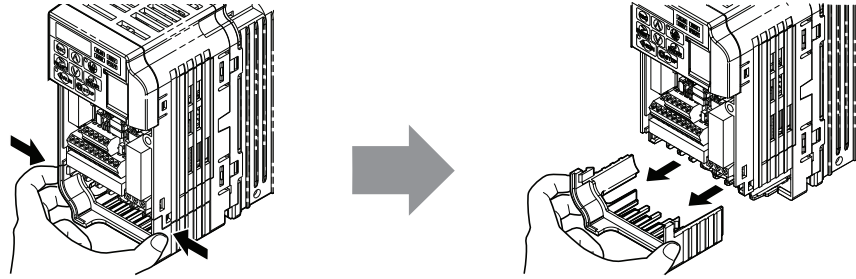
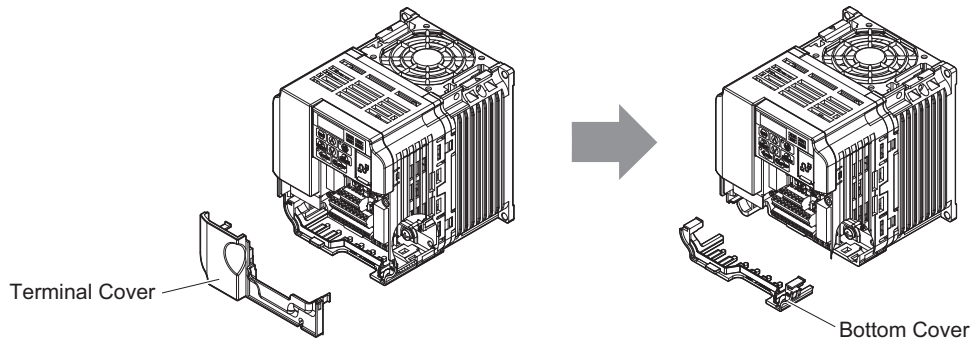

Figure 5 Remove the Bottom Cover on an IP20/Open-Chassis Drive (Models CIMR-V□BA0001B to BA0003B and 2A0001B to 2A0006B)
Figure 6 Remove the Terminal Cover and Bottom Cover on an IP20/Open-Chassis Drive (Models CIMR-V□BA0006B to BA0018B; 2A0008B to 2A0069B; 4A0001B to 4A0038B)
3. For IP20/Open-Chassis models CIMR-V□□A□□□□B, Remove the bottom cover of the drive by applying pressure to the tabs on each side of the bottom cover. Pull the bottom cover away from the drive while pushing in on the tabs to release the cover from the drive. Refer to Figure 5 for details. Refer to Figure 6 for drive models CIMR-V□BA0006B to BA0018B, 2A0008B to 2A0069B, and 4A0001B to 4A0038B, which require removing the terminal cover prior to removing the bottom cover.